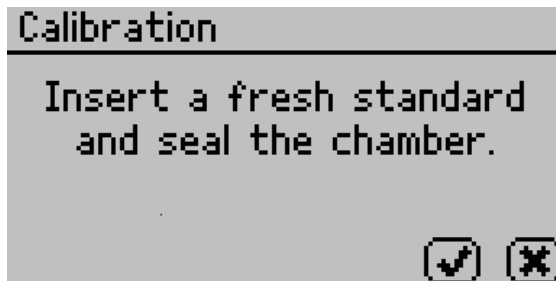

Figure 61 Calibration instruction dialog
5. A prompt will appear to insert a fresh standard and seal the chamber (Figure 61).